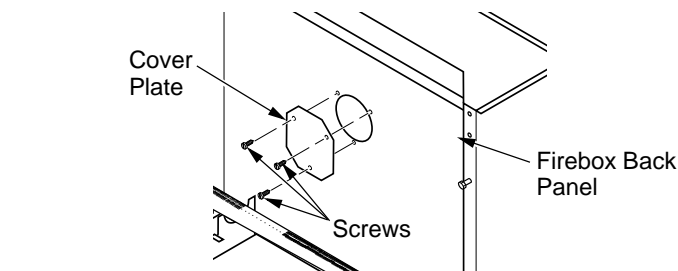

Figure 17 - Removing Cover Plate
11. Remove three screws and cover plate from center of firebox back panel. Keep screws but discard cover plate (see Figure 17).